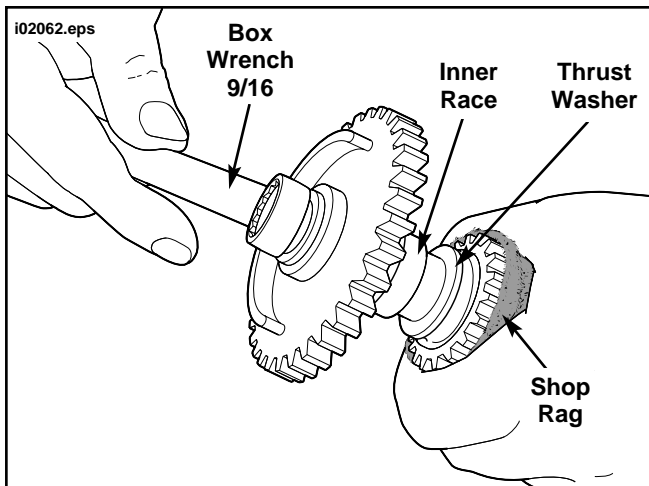

Figure 2. Install Bearing Inner Race (with O-Ring and Thrust Washer)
- e. See Figure 2. Wrap a shop rag around camshaft to get a firm grip and also to protect hand from sharp edges of sprocket. Using a 9/16 inch box wrench, turn flange bolt in a clockwise direction. Bearing inner race is fully installed when it makes firm contact with the thrust washer.